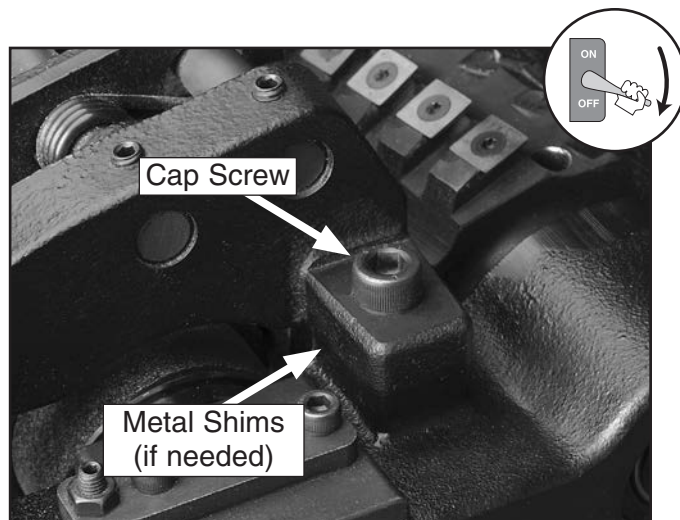

Figure 40. Chipbreaker mounting to headstock casting (right side shown).
- a. Remove the cap screws on each end of the chipbreaker (see **Figure 40**)